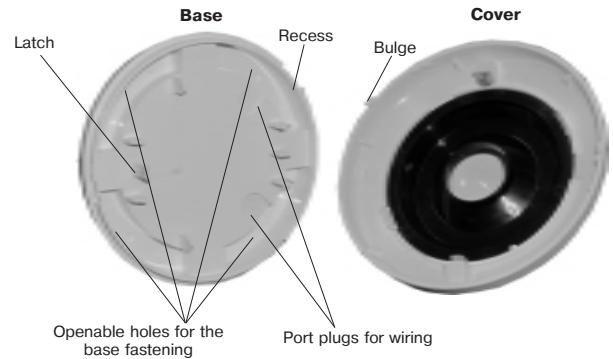

Figure 2 – Base and cover of the Detector
- Put off the Detector cover by it's turning counter-clockwise until tight to the recess on the external ring of the Detector base and then rise the cover (Figure 2).